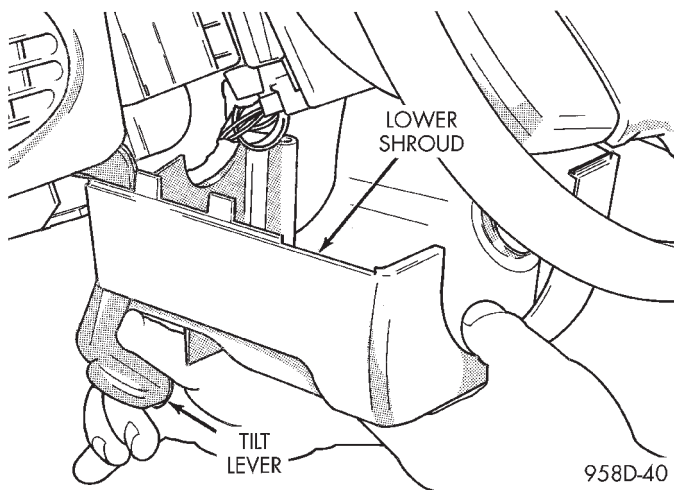

Fig. 18 Lower Shroud Removal
- (14) Hold tilt wheel lever down and slide lower shroud forward to remove it from column (Fig. 18).
- (15) Tilt wheel to full down position and remove upper steering column shroud.